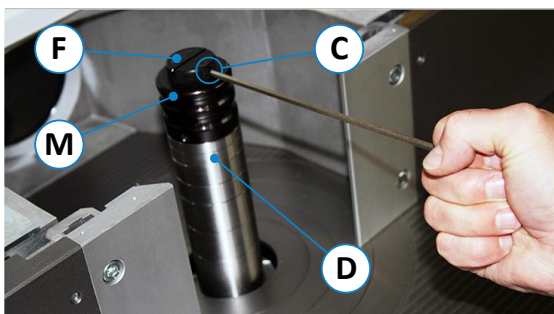

Figure 16: Milling arbor with quick clamping device
- Now turn the spindle by hand so that the clamping screw (C) is accessible (see ⇒ Figure 16).
- Press one of the two emergency stop buttons (4) and leave it locked.